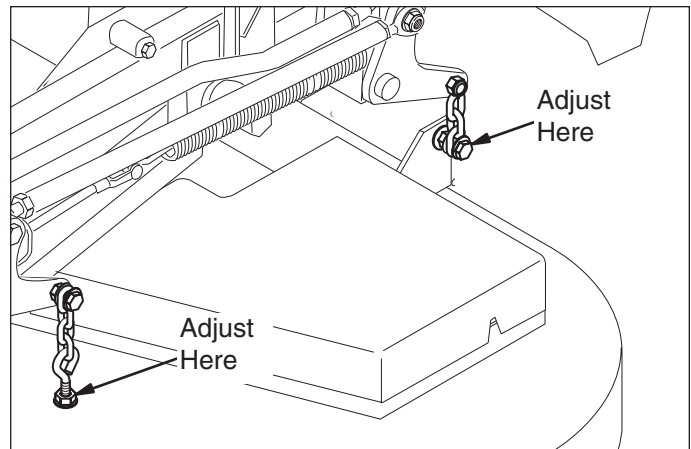

Figure 23. Hanger Chain Adjustment
4. Adjust the front eyebolts until the chains are tight and the deck is still resting on the 2 x 4's. Tighten jam nuts. See Figure 23.
5. Loosen the nuts and allow the rear of the deck to rest on the 2 x 4's and 1/4" spacers. Slide the chains in the slots until the chains are tight and tighten the nuts. See Figure 23.